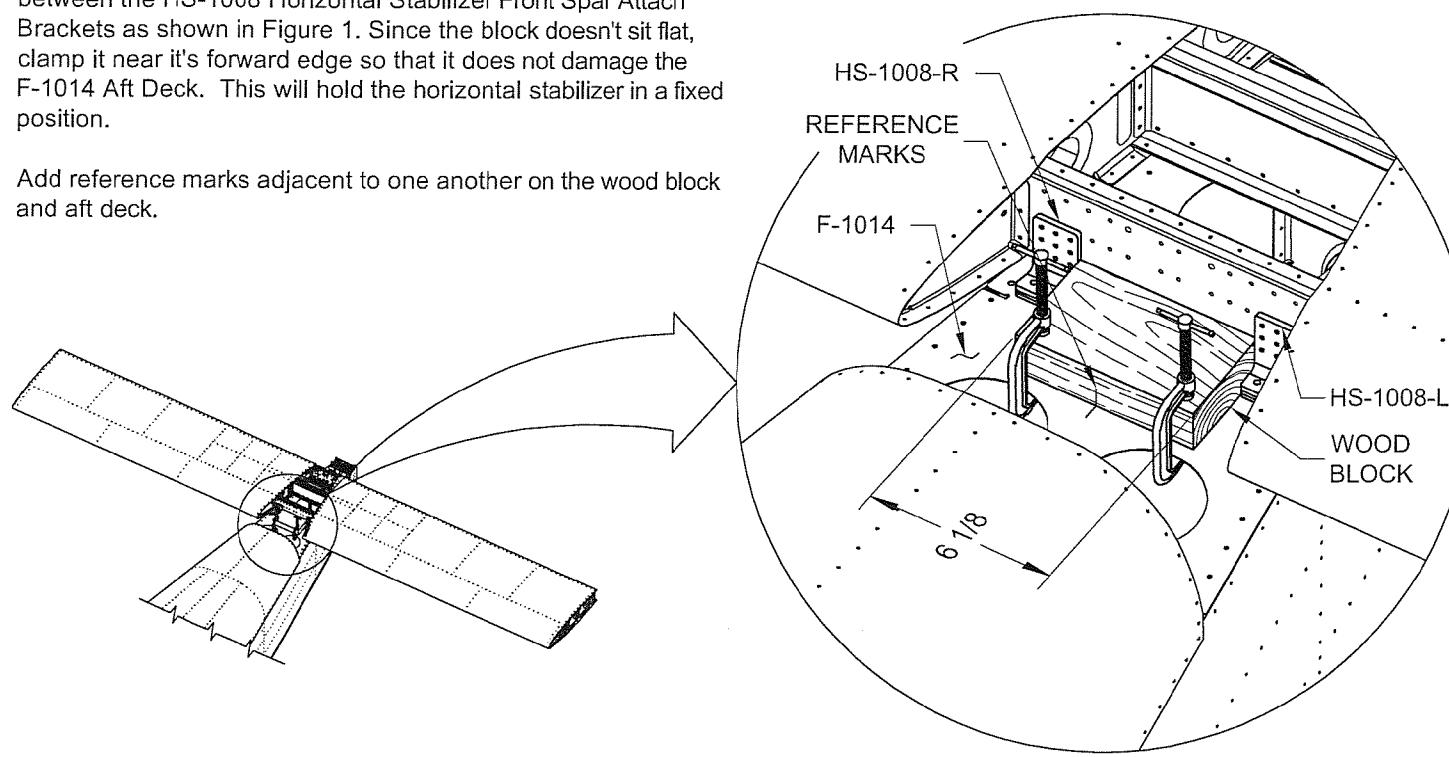

**FIGURE 4: CLECO AND DRILL ATTACH BARS**
Step 4: Lower the horizontal stabilizer onto the tailcone so that the HS-1003 Rear Spar is aft of the F-1011C Horizontal Stabilizer Attach Bars protruding from the aft fuselage as shown in Figure 4. Cleco the horizontal stabilizer to the horizontal stabilizer attach bars using the two #30 alignment holes in the horizontal stab and the two 1/8 inch holes in the bars.
Match-Drill #12 four holes in the horizontal stabilizer attach bars using the rear spar web as a drill guide. After each hole is drilled insert the hardware shown in Figure 4.